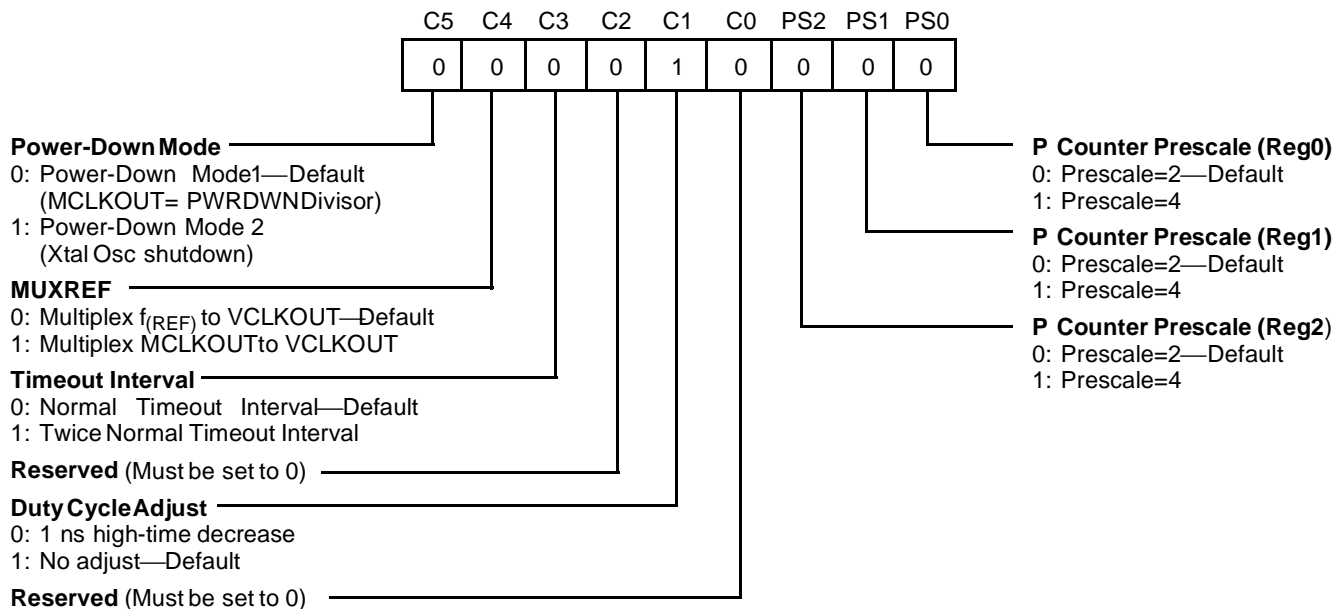

Figure 1. Control Register Definition
- Power-Down Mode (1 or 2) is determined by the setting of bit C5 in the CNTL Reg. See Figure 1 Control Register Definition.
The Control Register (CNTL Reg) allows the user to adjust various internal options. Most of these options are for special cases, and should have no applicability to standard graphics usage. The register word is defined in Figure 1.